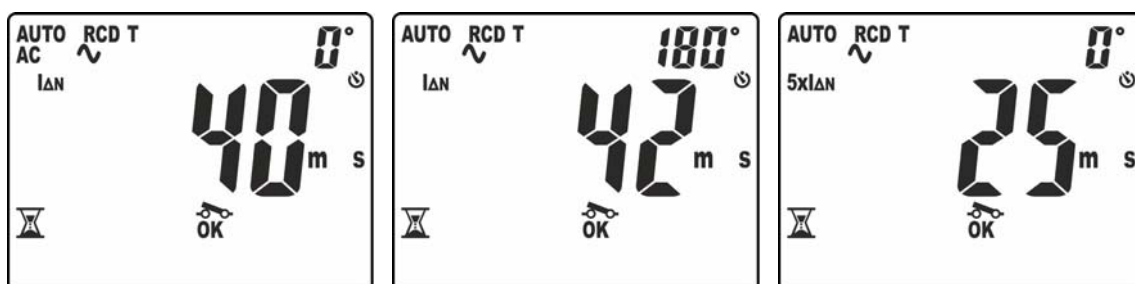

Fig. 32: Tripping time in AUTO mode – Screen 1
10. The first test carried out is the one with test current $I_{\Delta n}$ and polarity 0° . The result of partial measurement is shown on the display with indication "OK" or "NOT OK" (see Fig. 32 – left side). Symbol "⚡" flashing indicates that the RCD must be reset.
11. The second test carried out is the one with test current $I_{\Delta n}$ and polarity 180° . The result of partial measurement is shown on the display with indication "OK" or "NOT OK" (see Fig. 32 – middle). Symbol "⚡" flashing indicates that the RCD must be reset.
12. The third test carried out is the one with test current $5 \times I_{\Delta n}$ and polarity 0° . The result of partial measurement is shown on the display with indication "OK" or "NOT OK" (see Fig. 32 – right side). Symbol "⚡" flashing indicates that the RCD must be reset.